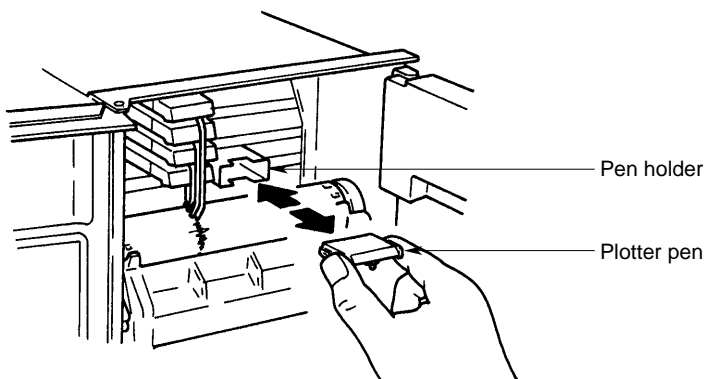

Figure 5.8
- 3 While grasping the plotter holder, gently slide the plotter out of the holder (see figure 5.8).
- 4 Remove the pen cap and insert a new plotter pen in the holder (see figure 5.8).